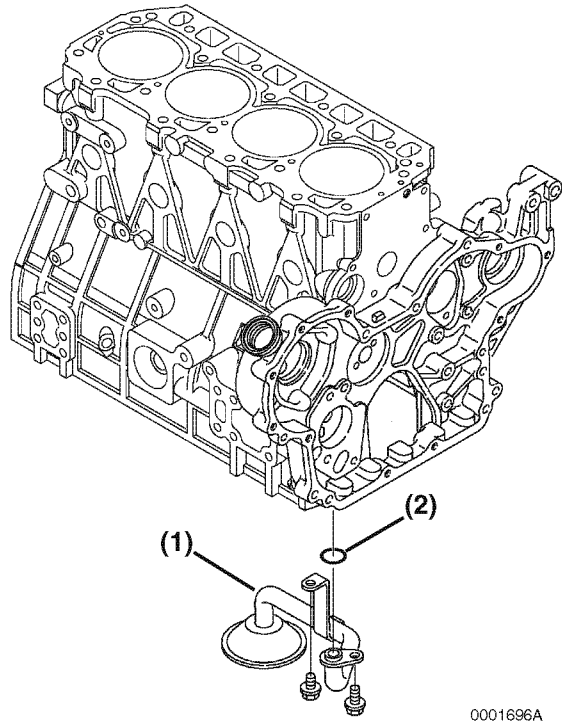

Figure 6-85
1. Position a new O-ring (**Figure 6-85, (2)**) on the oil sump tube.
2. Position the oil sump tube (**Figure 6-85, (1)**) in the cylinder block.